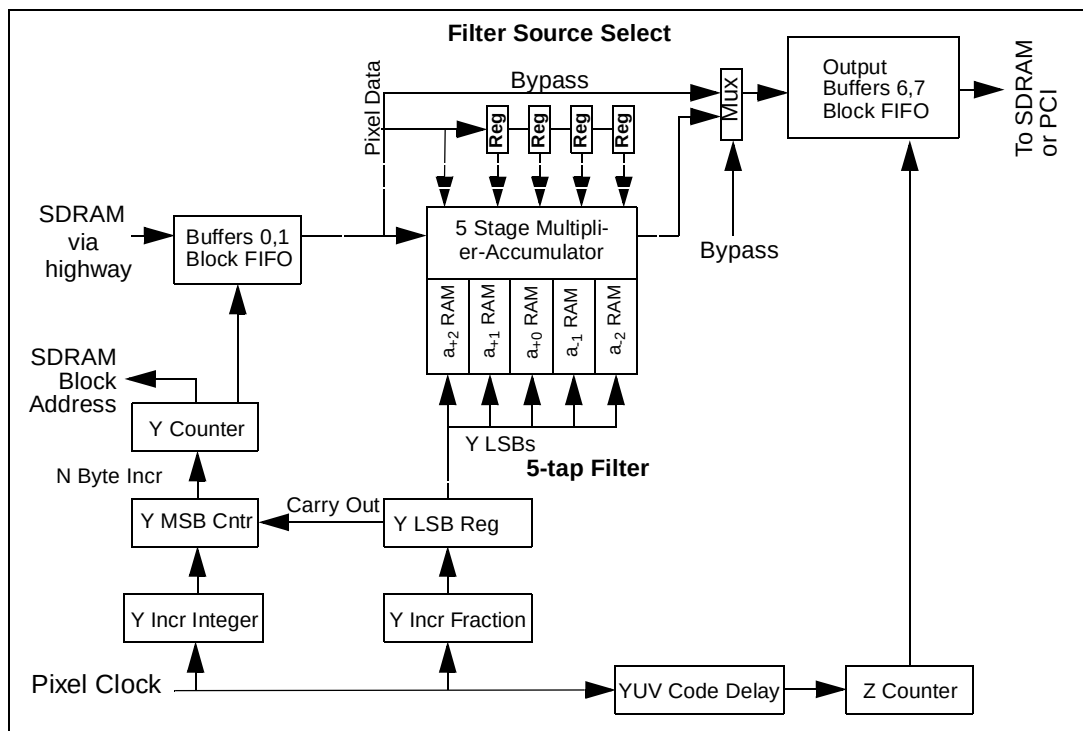

**Figure 14-11. ICP horizontal scaling data flow block diagram**
**Figure 14-11** shows a data flow block diagram of the ICP horizontal scaling algorithm implementation. Blocks of pixels are provided by the input block buffer. Each block of pixels is transferred sequentially to the 5-tap filter. The filter does scaling and filtering of the data and puts the resulting pixels in the output buffer. Completed pixels in the output buffer are written back to SDRAM or to the PCI output. A bypass multiplexer allows the filter to be bypassed for SDRAM to SDRAM block moves.
The horizontal filter shown in Figure 14-11 is pipelined to generate a pixel for every integer increment of the Y Counter. The filter input is always 5 clocks ahead of its output. The first stage generates the filter term  $a_{n+2}X_{n+2}$  using the data from the input block and the  $a_{n+2}$  coefficient from the coefficient RAM driven by the Y LSBs. The second stage registers hold the data for  $X_{n+1}$  and its corresponding Y LSBs and generate  $a_{n+1}X_{n+1}$ . The last stage registers hold the data for  $X_{n-2}$  and the  $X_{n-2}$  LSBs and generate  $a_{n-2}X_{n-2}$ .